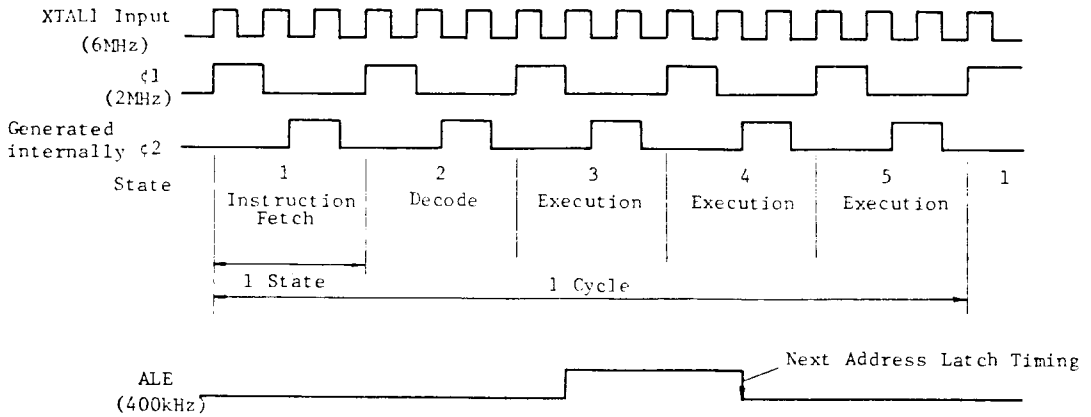

Fig.4 Instruction Cycle Timing
(1) Instruction Cycle
- . Fig.4 illustrates its relationship with the clock input to CPU.
- .  $\phi 2$  clock shown in Fig.4 is derived to outside by ENTO CLK instruction.
(2) External Memory Access Timing